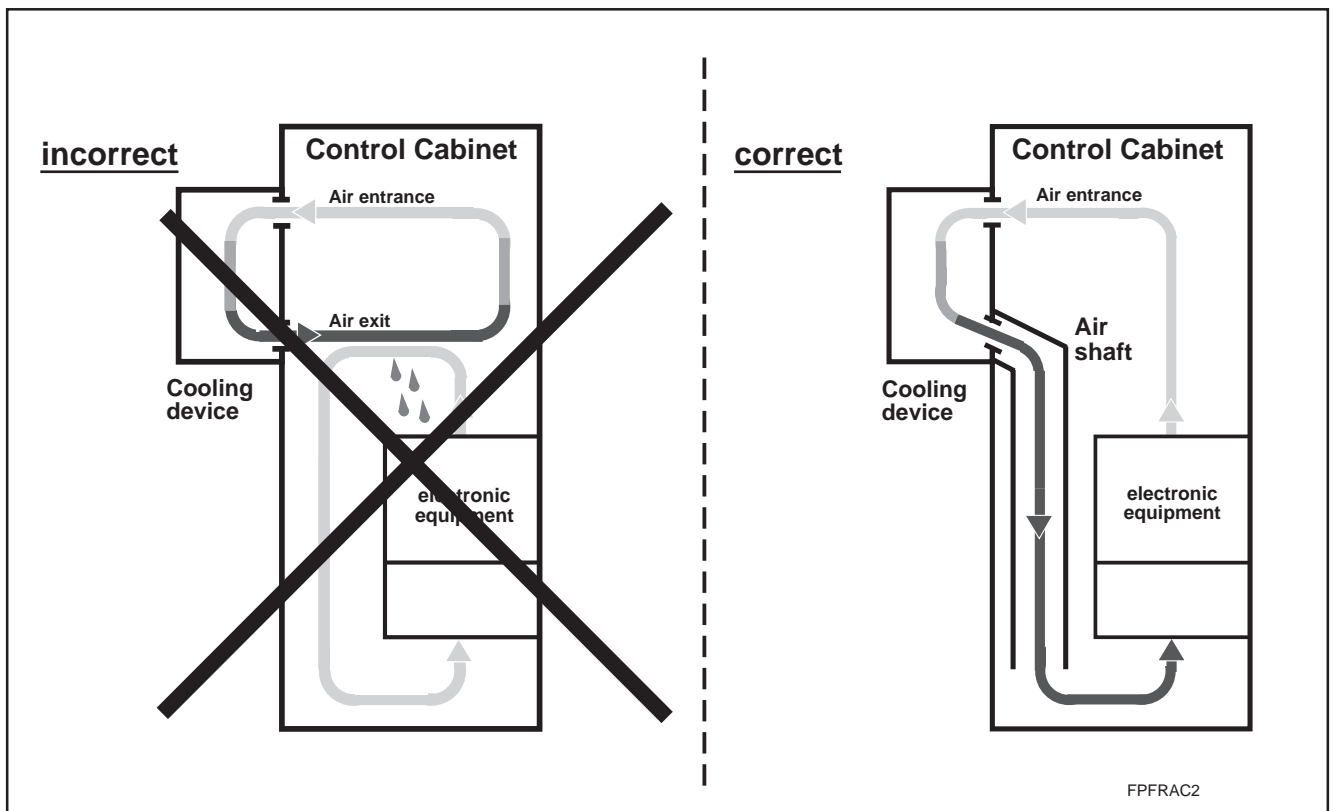

Figure 2.12: Cooling device arranged on front of control cabinet
- The control cabinet should be constructed in such a way that the cooling unit fan cannot spray the condensation water, which has collected after shutdowns, onto the controller (see Fig. 2.12)!